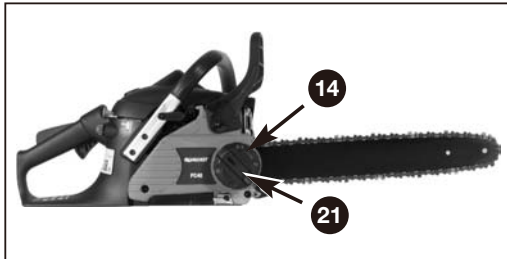

Fig. 4
1. Hold nose of guide bar up and turn adjustment chain ring **(14)** CLOCKWISE to increase chain tension. Turning chain ring **(14)** COUNTERCLOCKWISE will decrease amount of tension on chain. Ensure the chain fits snugly all the way around the guide bar. (Fig.4)
2. After making adjustment, and while still holding nose of bar in the uppermost position, tighten the bar retaining button **(21)** securely. Chain has proper tension when it has a snug fit all around and can be pulled around by gloved hand. (Fig.4)